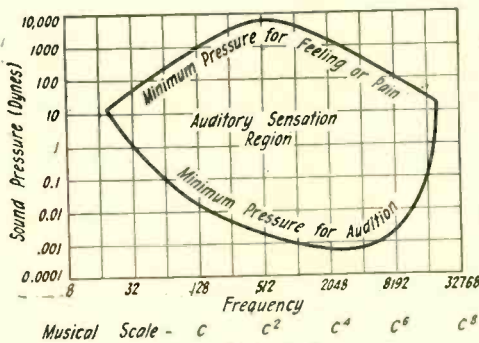

Figure 4
3. There is a minimum intensity of sound below which the ear cannot detect the presence of any auditory stimulus, or if it does, the brain cannot be stimulated by it sufficiently to bring it into consciousness. This lower limit of audition varies with frequency in accordance with the accompanying curve (see lower curve, figure 4). The air pressures are shown in dynes—a dyne corresponding to about one-five hundred thousandth of a pound.